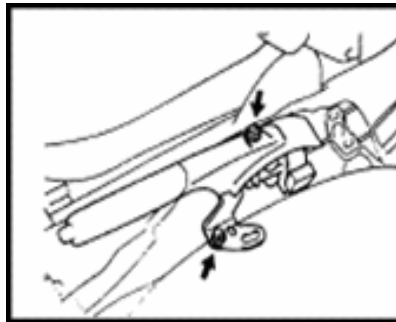

Fig. 2-75
- 7) Remove the accessories of the parking brake rod as shown in Fig. 2-75.